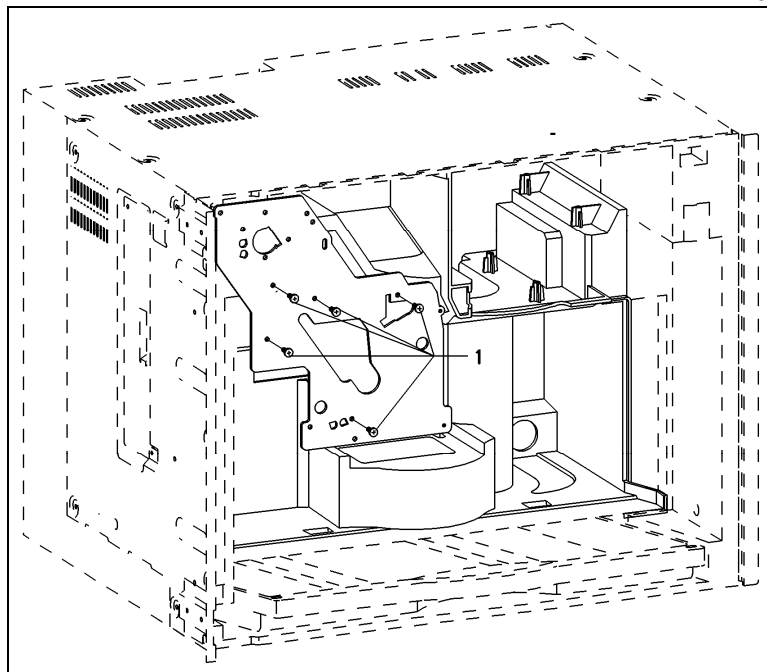

Figure 001-43: Brew Unit Drive Retaining Screws
8. Remove the five T10 screws securing the brew unit drive; see Figure 001-43, Item 1.